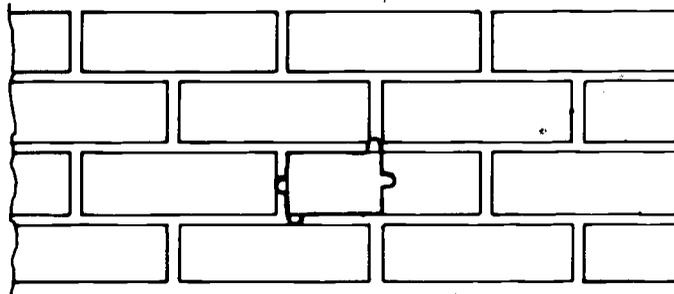

FIGURE 1
- C. Pencil around the box (Figure 1)